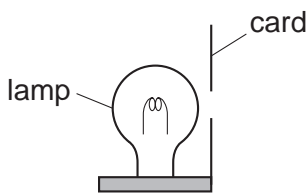
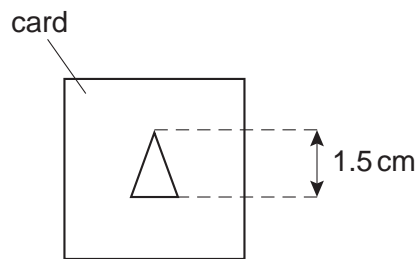

Fig. 4.1
Fig. 4.2
- (ii) Illuminated object with a triangular hole of height 1.5 cm (see Fig. 4.1 and Fig. 4.2). The hole is to be covered with thin translucent paper (e.g. tracing paper).